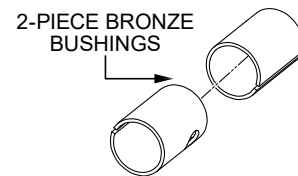

Figure 47. Bronze Bushings
5. Examine the **bronze trowel arm bushings** (Figure 47), and clean them if necessary. Replace the bushings if they are worn or out of round.